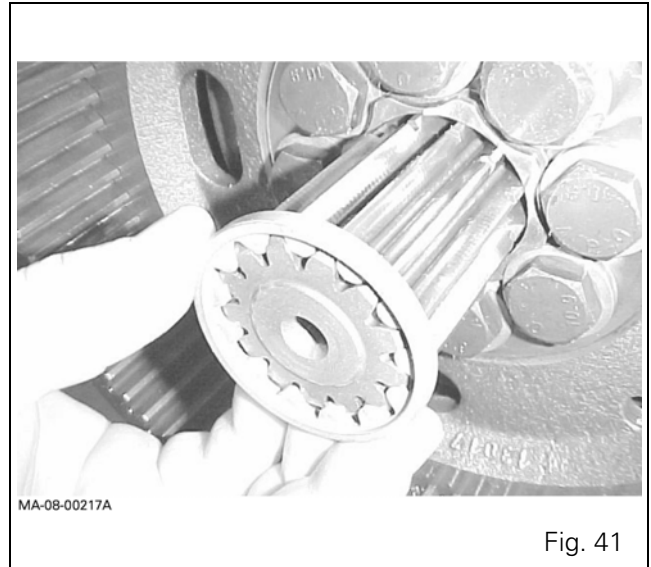

Fig. 41
38. Fit a new washer, positioning it so that the groove faces outwards (Fig. 41).